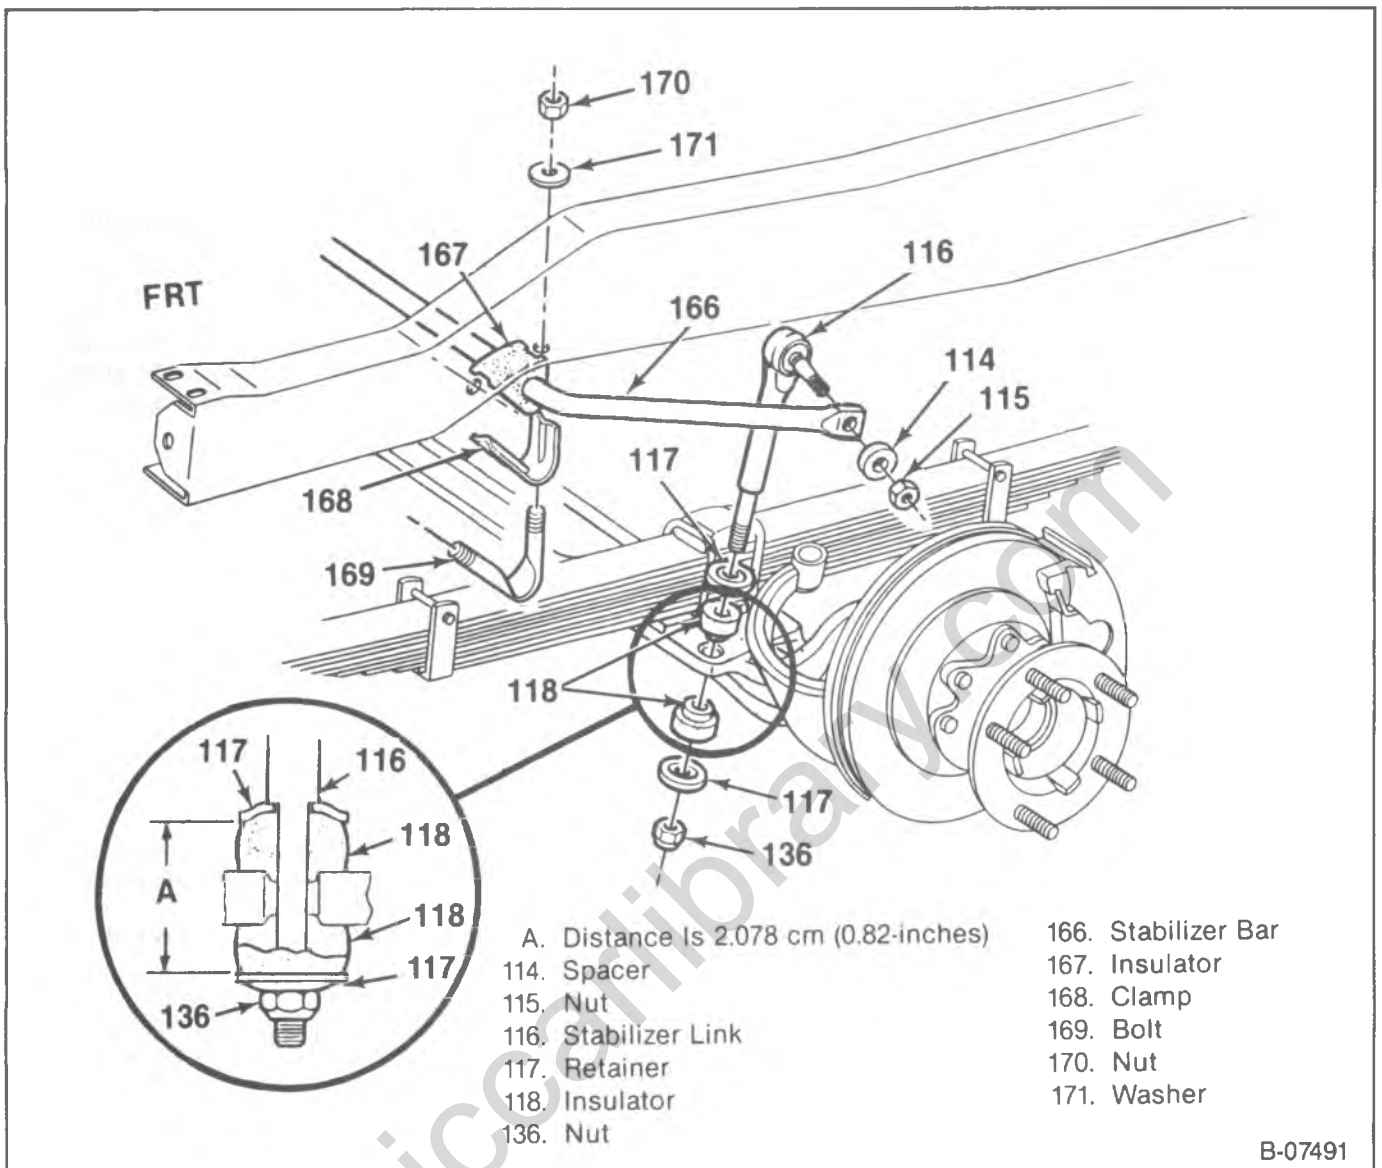

Figure 37—Stabilizer Bar Attachment Points
1. Stabilizer bar (166) from the stabilizer link (116).
- Nut (115) and washer (114).
2. Stabilizer bar (166) from the frame (figure 37).
- Nuts (170), washers (171), clamp bolts (169) and clamps (168).
- Slide the insulator (167) from the stabilizer bar (166).
3. Stabilizer link (116) from the front axle (157) (figure 37).
- Nut (136), retainer (117), insulator (118).
- Pull the link from the axle. Another insulator (118) and retainer (117) will come off the link.
1. Stabilizer link (116) to the front axle (157) (figure 37).
- Slide a retainer (117) and an insulator (118) on to the link and insert the link into the proper hole in the front axle.
- Insulator (118), retainer (117) and nut (136).
- Nut (136) until the distance between each retainer (117) is 2.08 cm (0.82 inches) (figure 37).
2. Stabilizer bar (166) to the frame (figure 37).
- Insulators (167) onto the stabilizer bar (166).
- Clamps (168), clamp bolts (169), washers (171), and nuts (170).